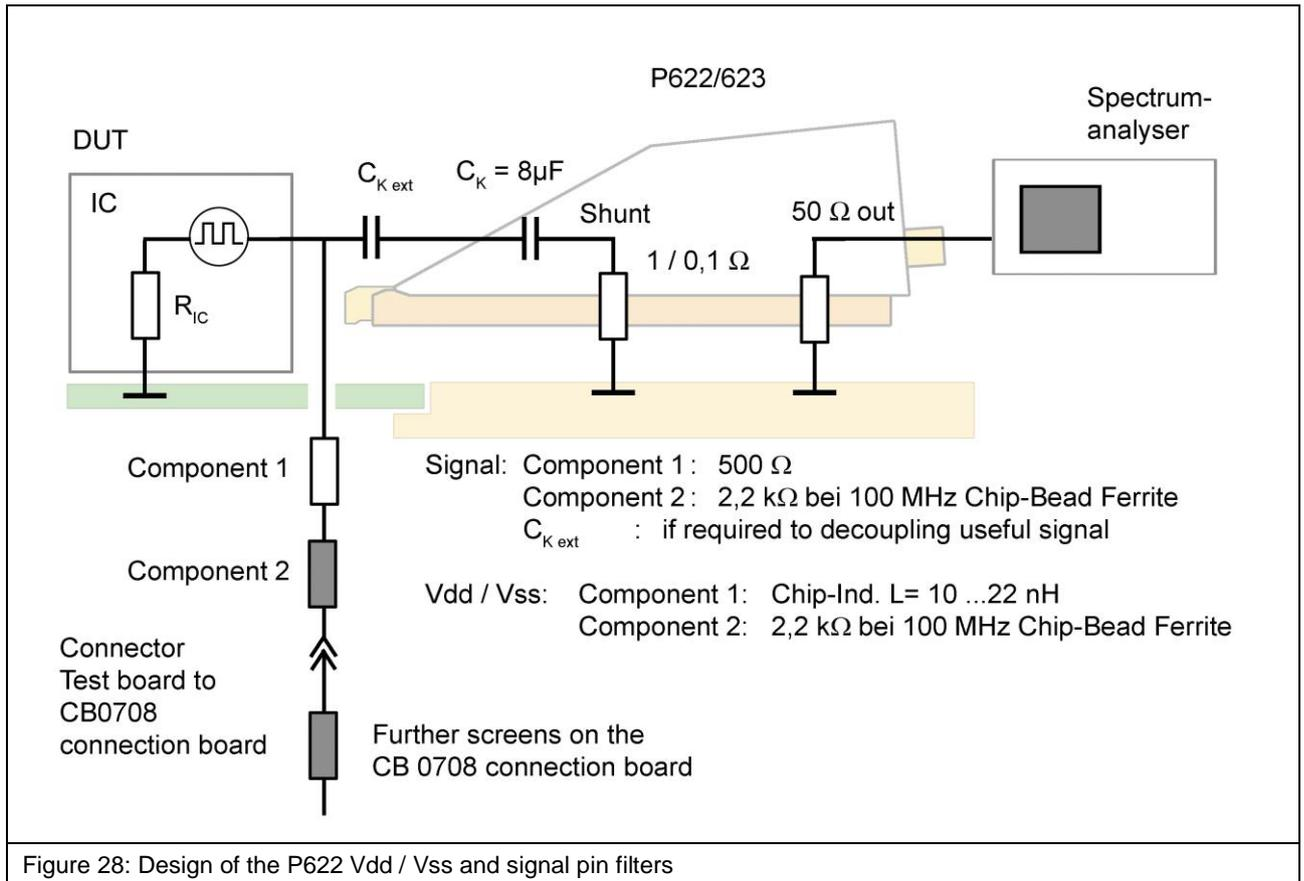

Figure 28: Design of the P622 Vdd / Vss and signal pin filters
**Figure 28** shows the design of the Vdd / Vss and signal pin filters which are located on the bottom of the test board. Please refer to the "IC test instructions"1 for a guideline on how to set up a test board.